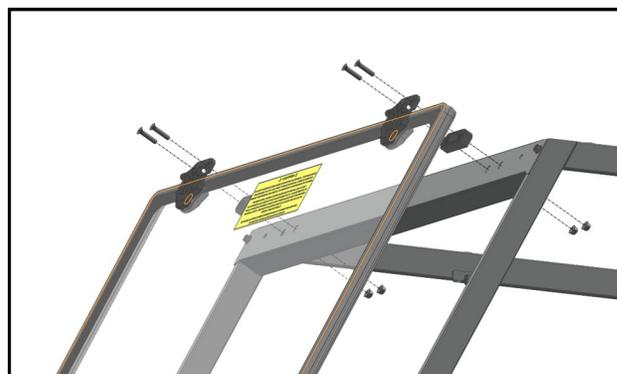

Fig. 7.1 (Windshield Hinges)
- 7.1 With assistance, set the windshield up to the A-pillars and secure it to the roof using the hinge spacers and hardware. See Figure 7.1.